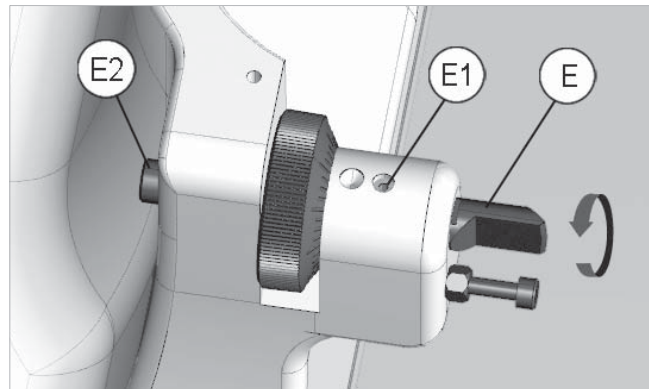

Fig. 37
- 1) Loosen the screw (E2) (Fig. 37).
- 3) Hold screw (E2) still, unscrew the tracer point (E) anticlockwise and remove.